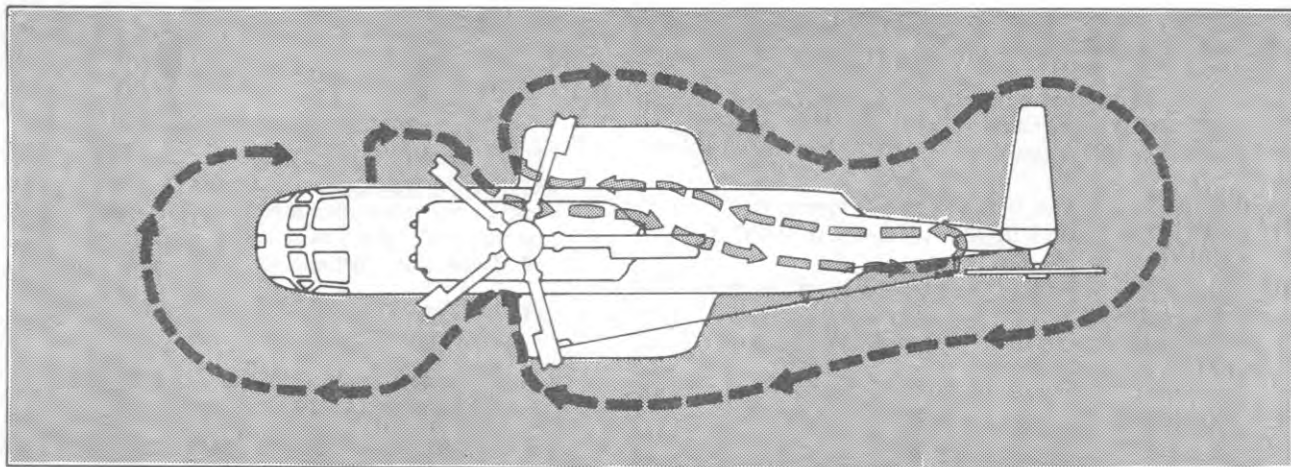

Figure 2-1. Exterior Inspection
b. There has been no crew change from the previous flight and no maintenance has been performed. Exterior inspection will be performed in accordance with figure 2-1.